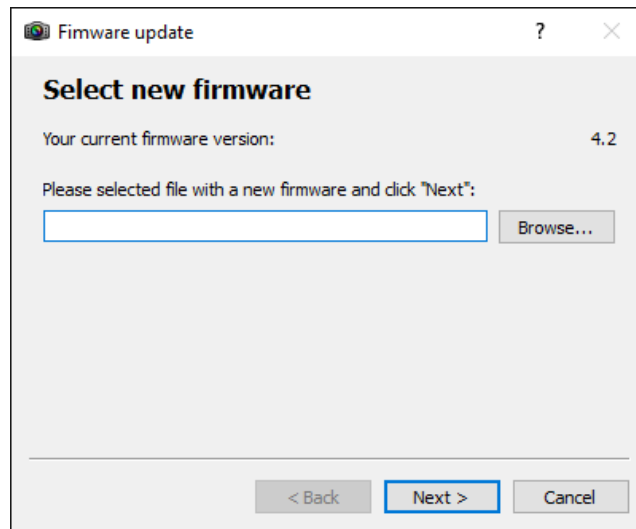

Figure 31 – Firmware update selection window
2. Click the "Browse..." button, as shown in Figure 31, and select the desired firmware update file, in accordance with the device chosen (.bin file extension), and Click the "Next >" button
3. The following window displays both current and new firmware, as shown in Figure 31